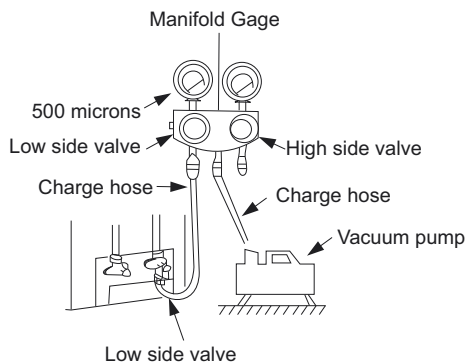

Fig. 13 – Manifold
- 3 Fully open the low side of manifold gage (see Fig. 13).